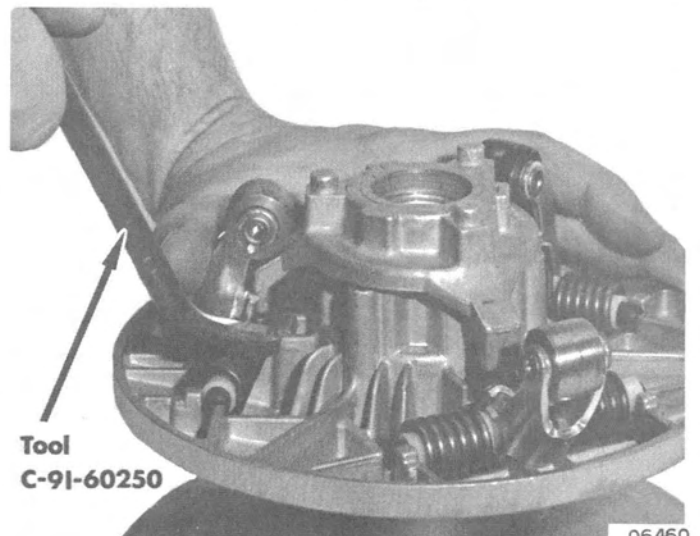

Figure 11. Engaging Roller Arm Springs
9. Lift sliding sheave up and engage springs on roller arms with C-91-60250 tool. (Figure 11)